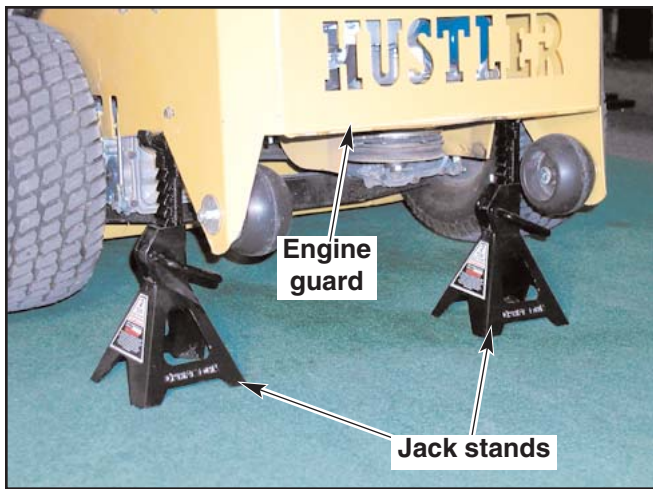

Figure 9-6
1. Raise and block the tractor up so the drive wheels are off the floor. Place the jack stands under the engine guard to support the machine. Fig. 9-6